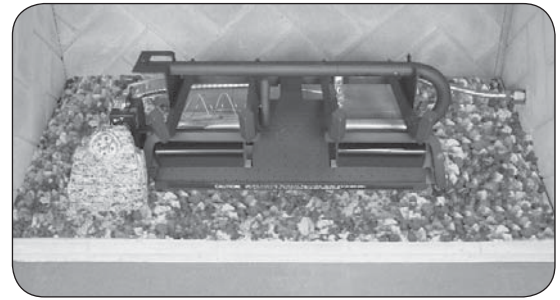

Fig. 16-1 Place lava granules
1. Spread the supplied lava granules on the floor of the fireplace; around the front and sides of the burner system (see Fig. 16-1). The lava granules may be placed around the remote receiver. Leave the front of the receiver clear for control access.